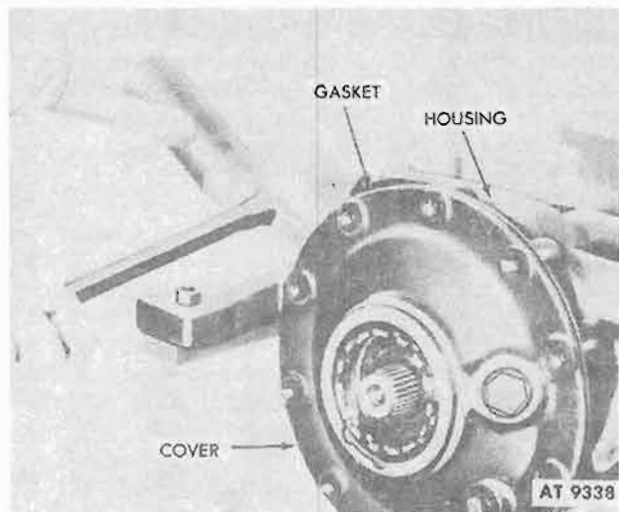

Figure 12-7. Removing Cover Plate from Housing.
h. Using common tool remove cover plate from housing (fig. 12-7).
Figure 12-7 is superseded as follows: